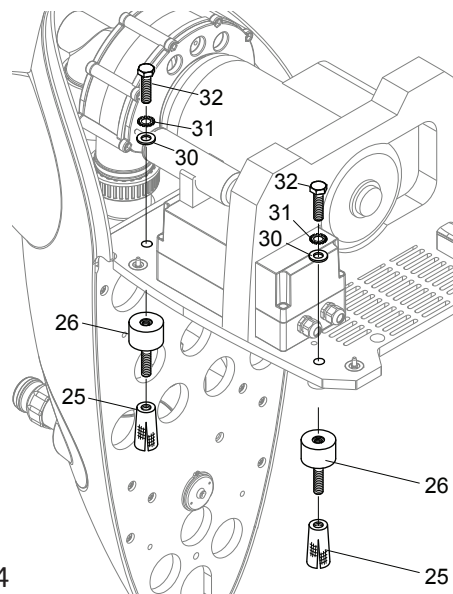

Figure 4
7. Place the unit on the rubber mounts or on deck if rubber mounts cannot be used. Install the 8.4 x 24mm washer (part# 30), 8.4mm lock washer (part# 31), and bolts. If using the rubber mounts, install M8 x 25mm hex-head bolts (part# 32). If you are not using the rubber mounts, install the M8 x 40mm bolts. (See Figure 4)